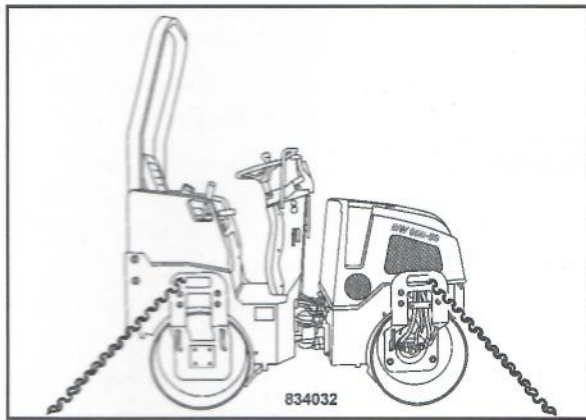

Fig. 50
- Lash the machine to the transport vehicle, use the lashing eyes (Fig. 50) on front and rear frame for this purpose.